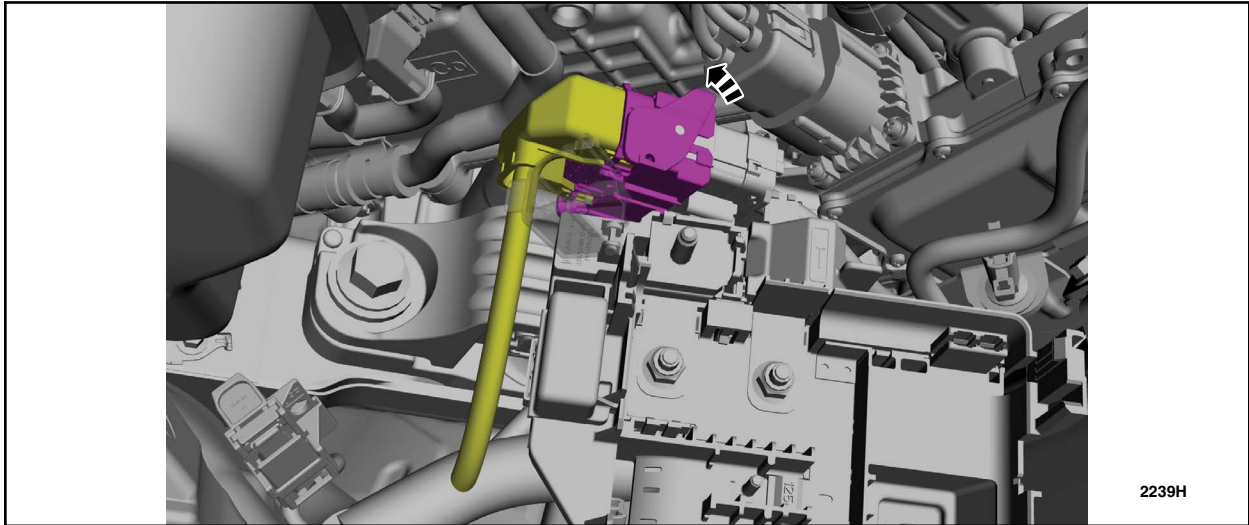

FIGURE 8
12. Disconnect the electrical connector and position aside the wire. See Figure 8.